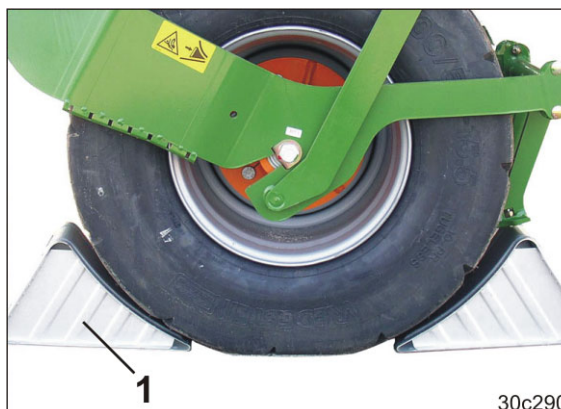

Fig. 106
1. Check whether the Cirrus is secured with 2 2 x 2 wheel chocks (1Fig. 106) on each side of the machine under the outer tapered ring tyres.